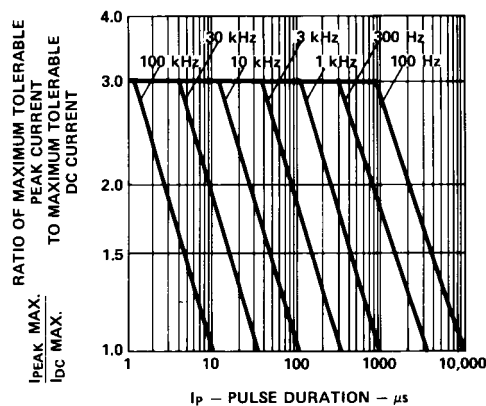

Figure 5. Maximum Tolerable Peak Current vs. Pulse Duration. (I_{DC} MAX as per MAX Ratings).
1. See Figure 5 to establish pulsed operating conditions.